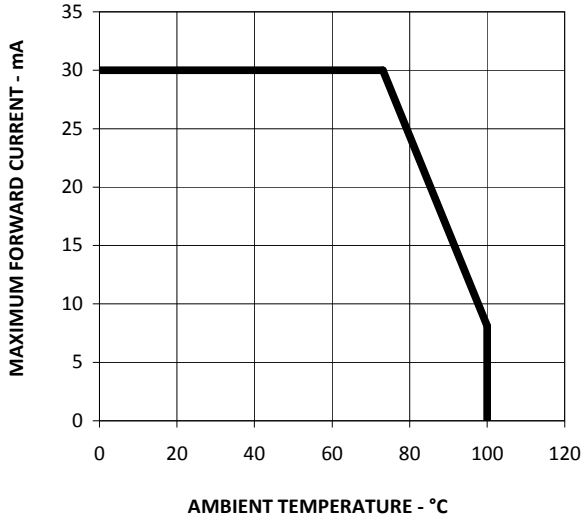

Figure 4. Maximum Forward Current Vs. Ambient Temperature. Derated Based on $T_{jMAX} = 110^{\circ}C$, $R\theta_{JA} = 300^{\circ}C/W$
1. Derate linearly as shown in Figure 4.